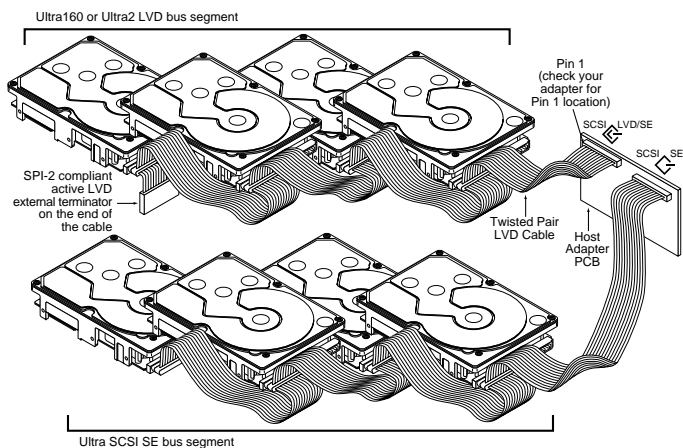

Figure 4. Cable connections and external termination
**Note.** Some LVD host adapters provide an LVD connector *and* an SE connector on the same host adapter to allow you to run SE and LVD drives concurrently at their maximum capabilities. Check your SCSI host adapter documentation. See Figure 4.
LW, LWV, LC, and LCV models do not have internal terminators or any other way of adding internal termination on the drive. You must provide external termination when termination is required. This is normally done by adding an inline terminator on the end of the cable. See Figure 4 for an illustration showing a system configuration that uses an external terminator.
- Connect the DC power cable to the drive. See Figure 4.